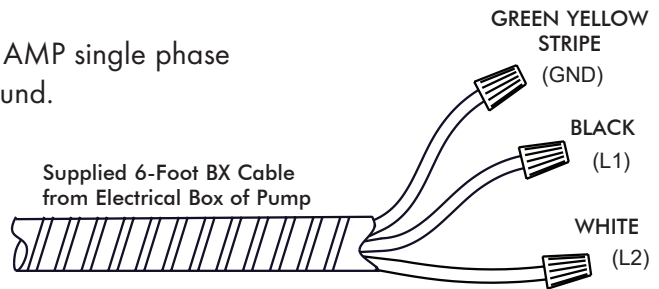

Figure 9. MOJAVE LT Power Connection
4. **System Electrical Connections.** Refer to the Electrical Connections section (See Figure 9.) and connect the pump to 220V facility power. Refer to Figures 10 and 11 when connecting the low power remote switch. Do not use a high voltage switch to turn power off remotely. Unit must remain powered at all times.